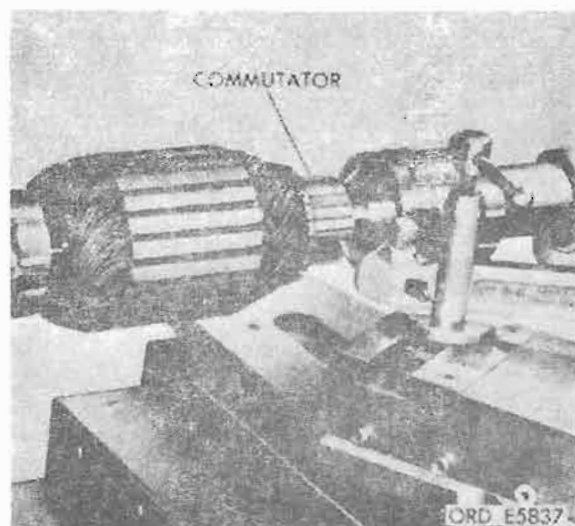

Figure 7-18. Turning down commutator.
(8) Turn commutator down on a lathe to remove burned areas of roughness, or if out-of-round more than 0.003 inch. Take light cuts with rounded tip tool mounted approximately $1/32$ inch below centerline of shaft. Chuck both ends of shaft in lathe. See figure 7-18. If finished diameter of commutator is less than 1.450 inches, discard armature.